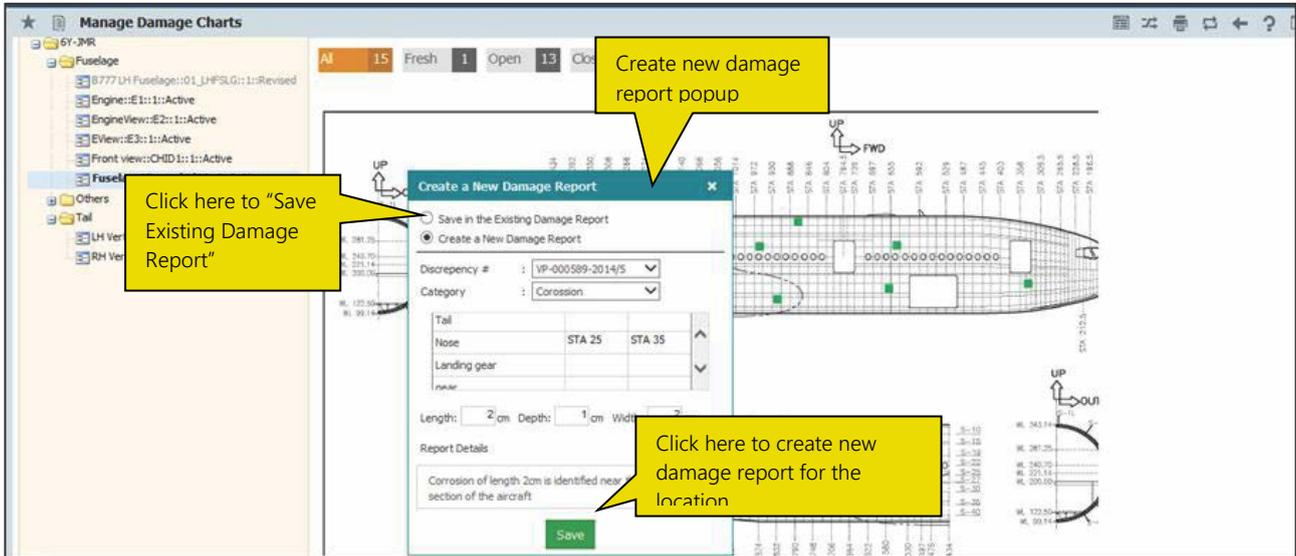

Figure 3.11 Mark a damage and create new damage report
2. The **Create a New Damage Report** popup appears. See Figure 3.11.